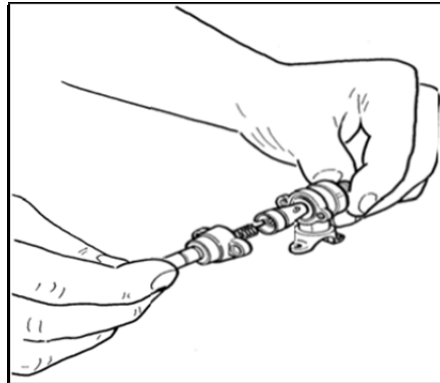

Fig. 17
- 1) Disassemble the valve body by loosening the two screws located on the body of the valve (Fig.17)